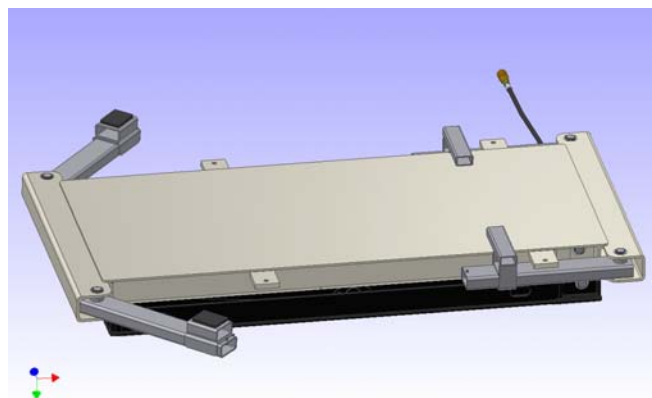

Figure 9
- **ONLY USE THE OFFSET ARM MOUNTS WITH THE ARMS FULLY RETRACTED SEE FIGURE 9**